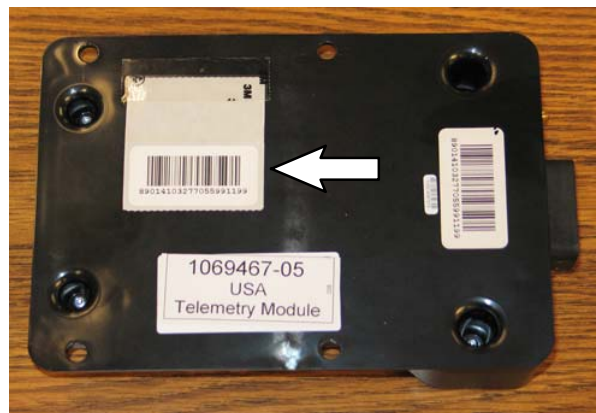

FIG. 10
10. Remove the additional SIM label from the back of the control box (1) and set label aside in a safe place. The number on the SIM label will be needed for activating the machine. (Fig. 10)